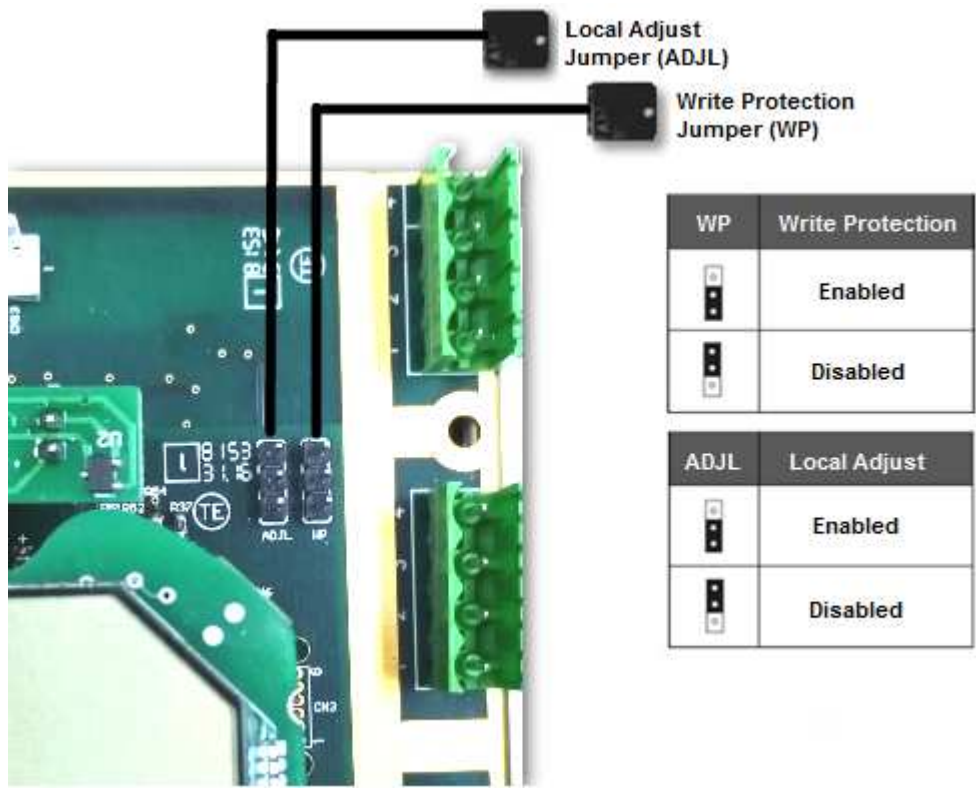

Figure 3.2 – Jumpers WP1 (write protection) and ADJL1 (local adjust) on VAP10 main board.
VMI10-P has two jumpers on its main board to protect data writing (WP) and enabling/disabling local adjust (ADJL). Figure 3.2 presents those jumpers.